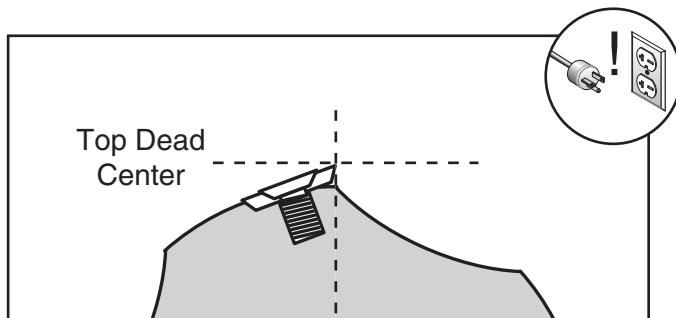

Figure 46. Cutterhead insert at top-dead-center.
3. Place a straightedge on the outfeed table so it extends over the cutterhead and rotate the cutterhead pulley until one of the carbide inserts is at top-dead-center (TDC), as shown in **Figure 46**.